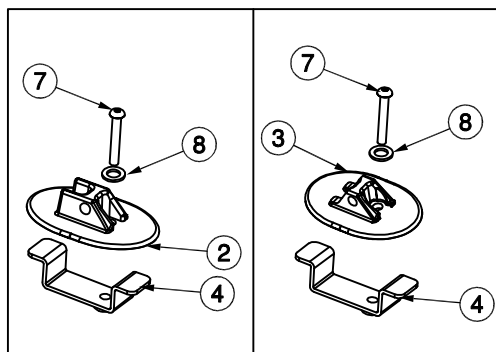
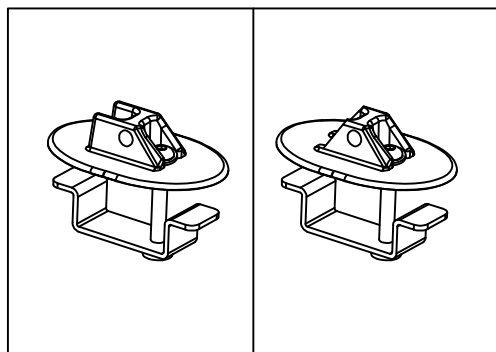

Fig. 2
Fig. 3
3. Assemble the Bases to the Mounting Bracket using the M8 x 65mm bolt as shown. (See Fig. 2) Only turn the Mounting Bracket on a few threads. (See Fig. 3)